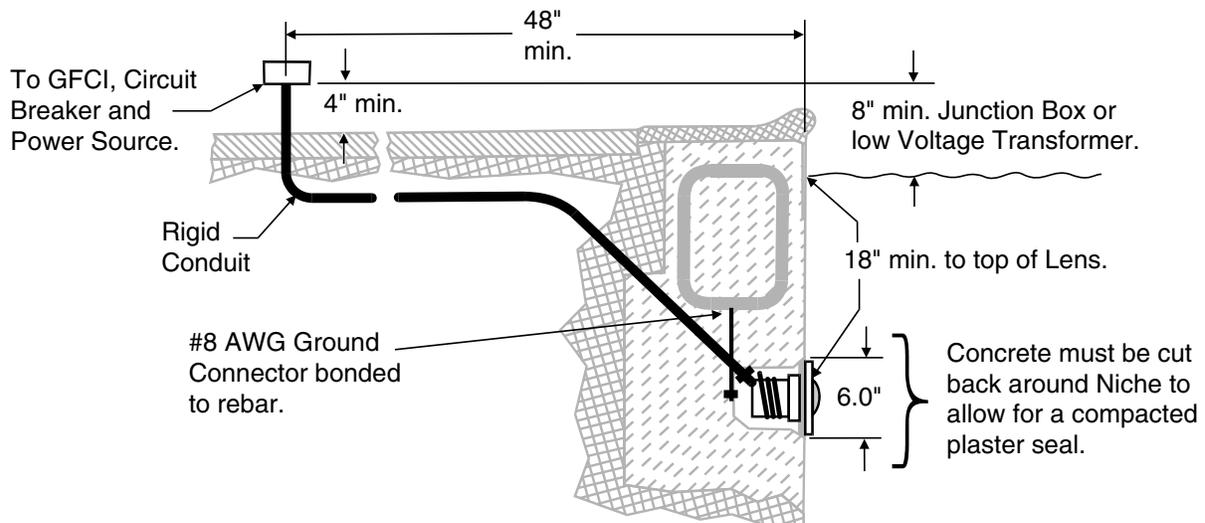

Figure 1
BEFORE STARTING: The following steps (1-6) describe the tasks that must be completed by the electrician before the IntelliBrite light fixture is installed. See Figure 1 diagram.
- The Junction Box (or, for 12 volt models, the low voltage transformer) is located at least 8 inches above the maximum water level of the pool and at least 48 inches from the edge of the pool; see Figure 1.
- The wet niche is properly installed so that the top edge of the underwater light's lens is at least 18 inches below the surface of the water in the pool/spa; see Figure 1. (Not more than 20" depth in Canada.)
- The wet niche is properly electrically bonded and grounded via the No. 8 AWG ground connector located at the rear of the niche; see Figure 1.
1. Feed cord through conduit to Junction Box, leaving at least four (4) feet of cord at the light fixture to coil around the light; see Figure 1. The four (4) feet of cord around the light allows the light to be serviced after the spa is filled with water.
- The Junction Box (or, for 12 volt models, the low voltage transformer) is located at least 8 inches above ground level and at least 48 inches from the edge of the spa; see Figure 1.
- The wet niche is properly installed so that the top edge of the underwater light's lens is at least 18 inches below the surface of the water in the spa; see Figure 1.
5. Leave at least four (4) feet of cord to coil around the light fixture; see Figure 1 on page 2. This four (4) feet of cord coiled around the light allows the light to be serviced after the spa is filled with water.
6. Cut the cord at the Junction Box, leaving at least size (6) inches of cord to make connections.
7. Strip six (6) inches of the outer cord jacket from the cord to expose the three (3) insulated wires – be careful not to damage the insulation on the three inner wires.
8. Connect all three (3) wires to the corresponding circuit wires in the Junction Box (black wire to power, white wire to common, and green wire to ground) and secure the Junction Box cover in place.
- Aligning the lens position with the LEDs:** While looking through the front of the lens, slightly rotate the lens until the vertical lines on the lens are in focus with the four (5) rows of LEDs below.
12. **Install the IntelliBrite light assembly into the niche:** Feed cord through conduit to Junction Box, leaving at least four (4) feet of cord at the light fixture to coil around the light; see Figure 1 (page 3). The four (4) feet of cord around the light allows the light to be serviced after the spa is filled with water.
13. Cut the cord at the Junction Box, leaving at least six (6) inches of cord to make connections.
14. Strip six (6) inches of the outer cord jacket to expose the three insulated wires (be careful not to damage the insulation on the three inner wires).
15. Connect all three (3) wires to the corresponding circuit wires in the Junction Box and secure the Junction Box cover in place.